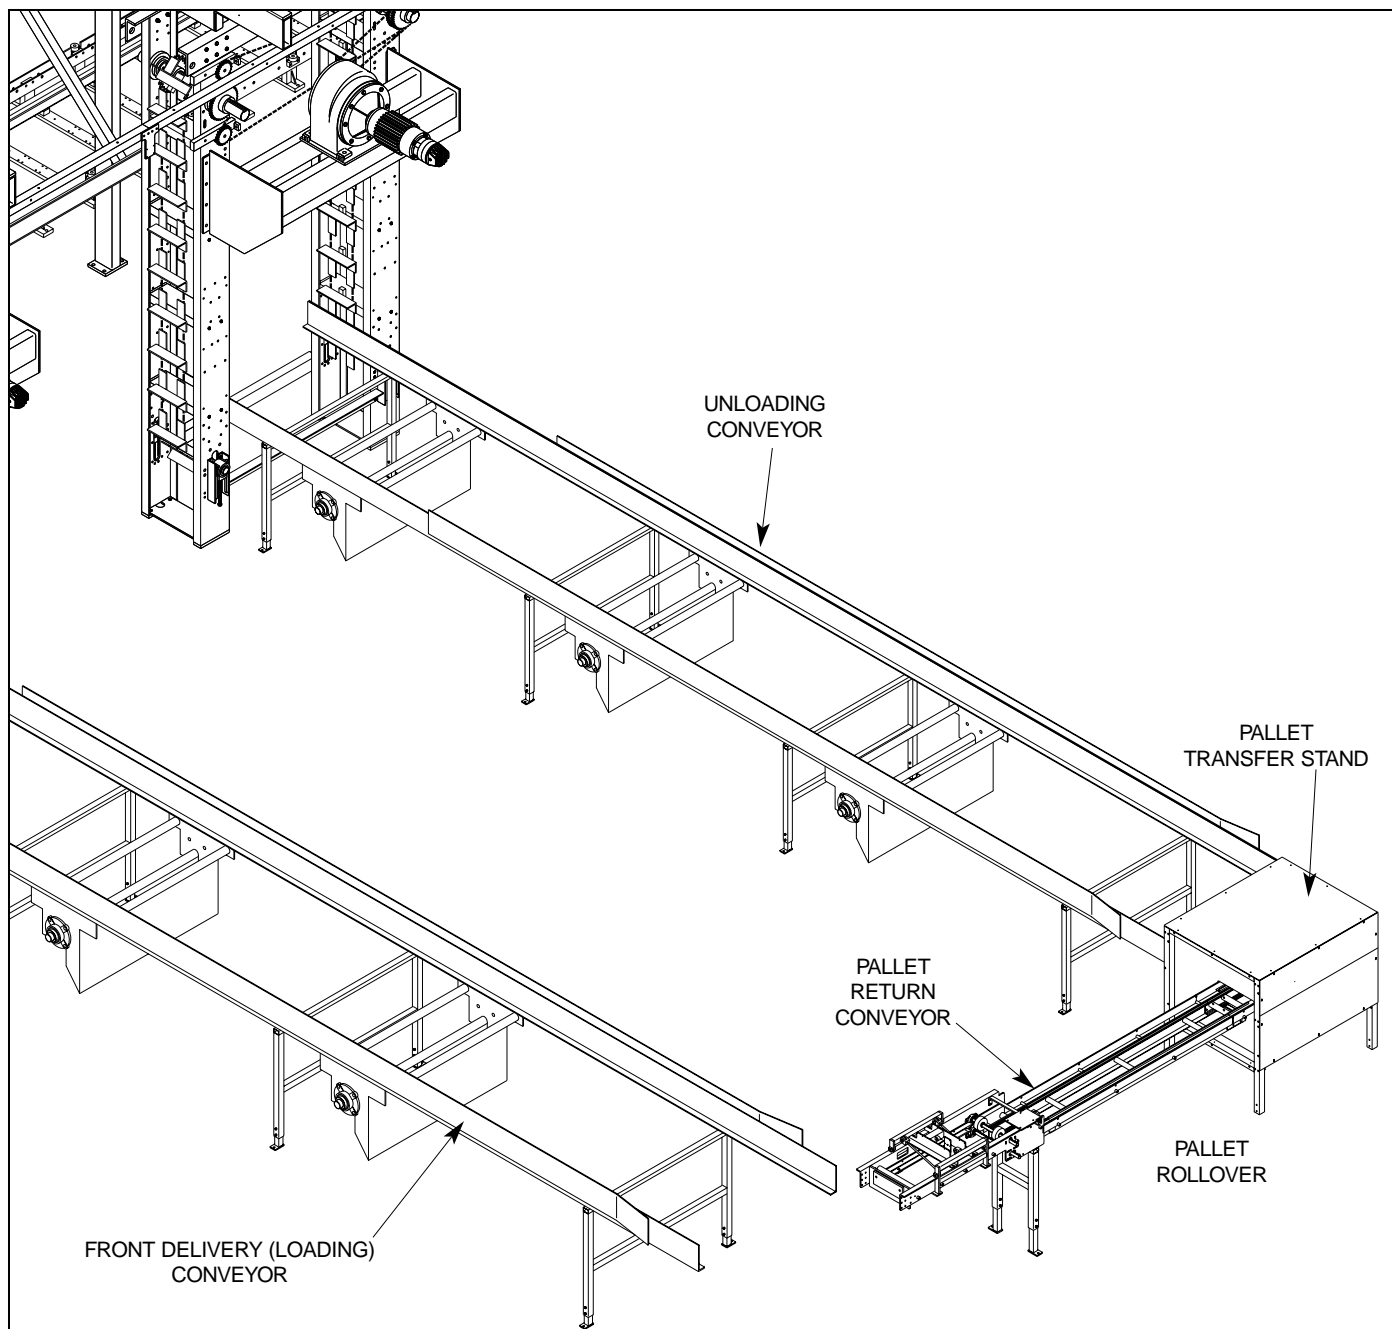
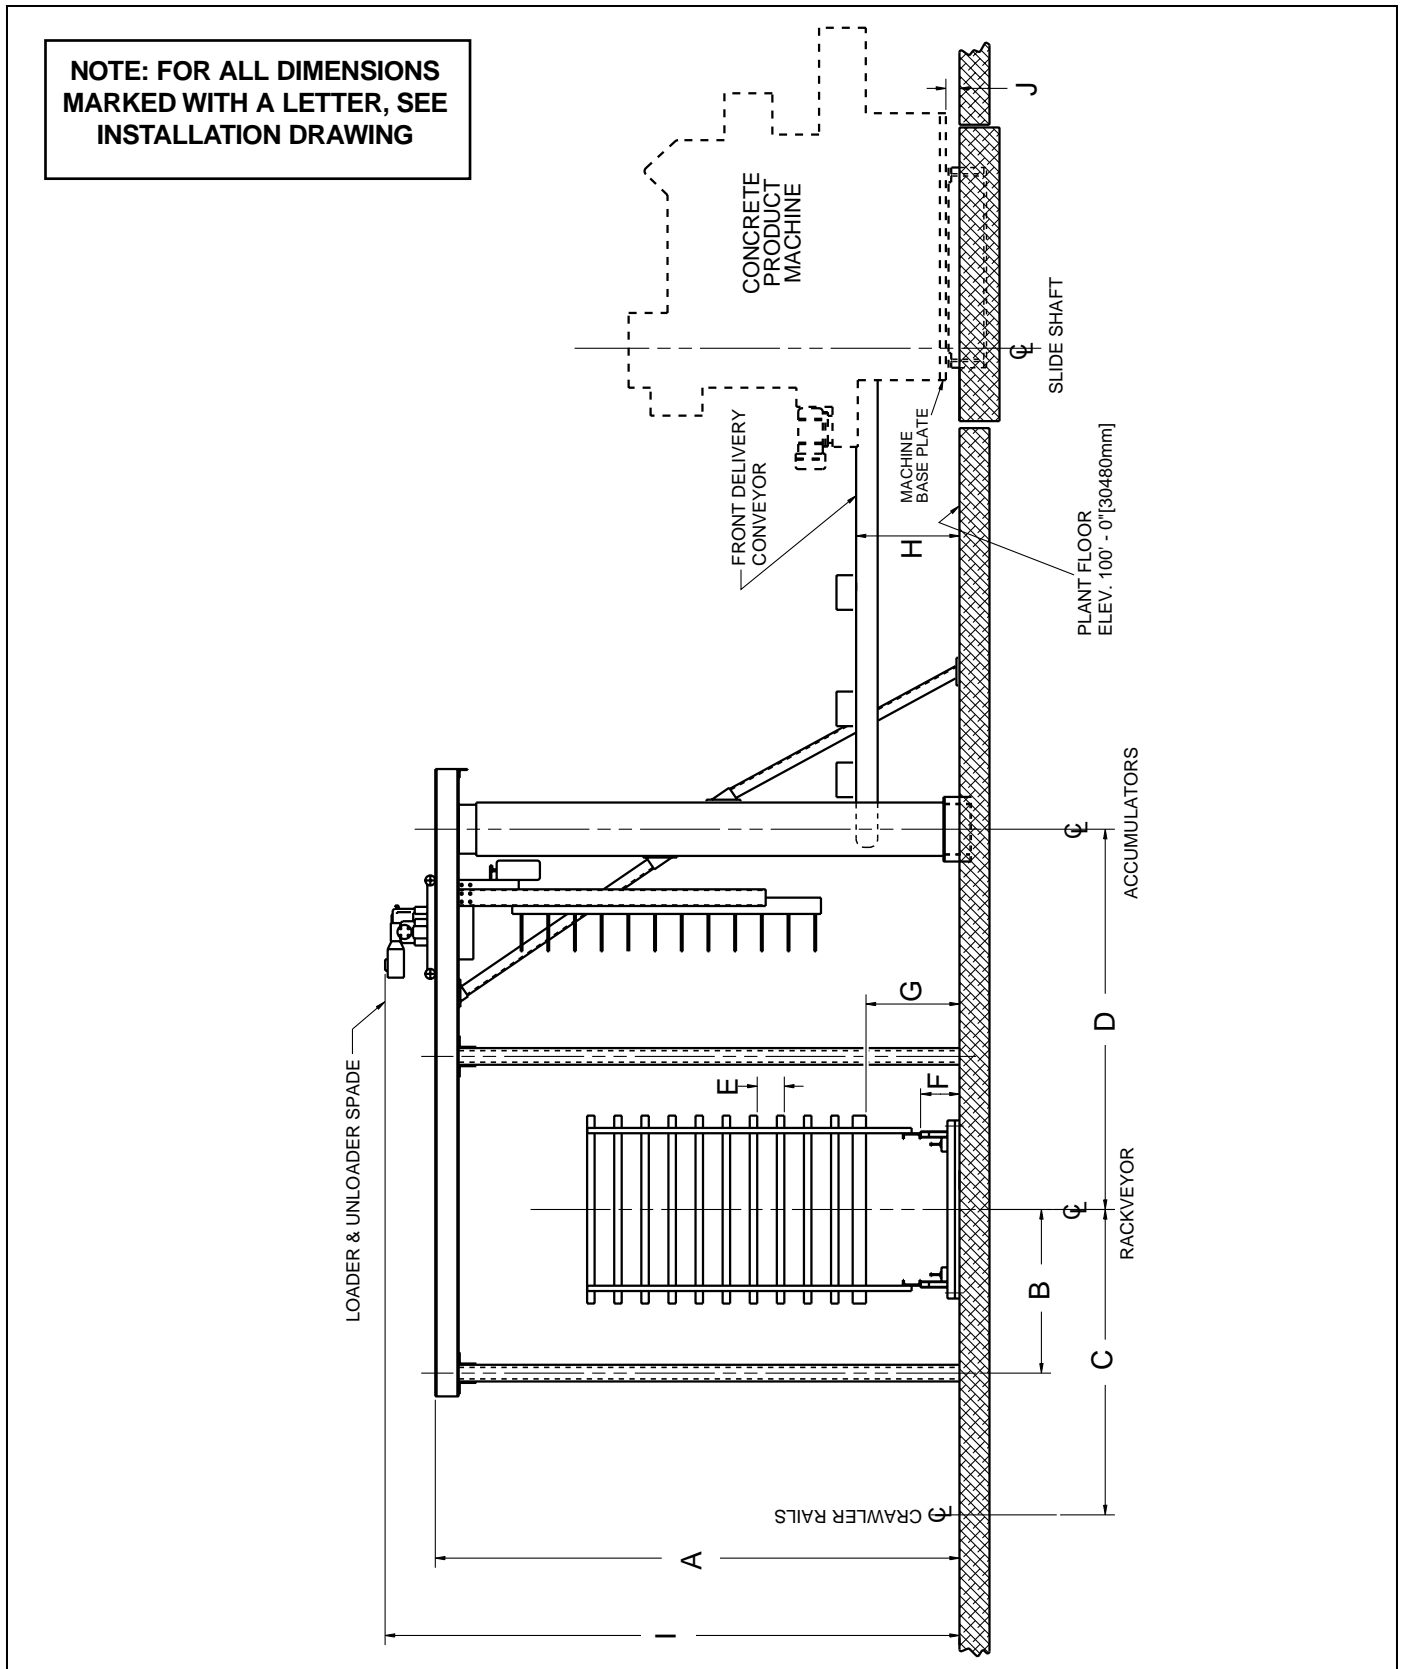

Figure 3.30 CONVEYORS ON MS-12. (Note that some drives are not shown on this illustration)
Figure 3.32 OVERALL INSTALLATION DRAWING (ELEVATION VIEW).
Note: Use figure 3.30 to locate conveyors.
3.9.1.6 Adjust height of conveyor. Refer to figure 3.32, measurement H. **Important:** Height should be taken from floor to top of chain. Use adjustment bolts to adjust conveyor height as shown in figure 3.30.
3.9.2.5 If necessary, hook up conveyor chains and tighten chains (on short conveyors, chains are not removed from the conveyor). **3.9.2.6** Adjust height of conveyor. Refer to figure 3.32, measurement H. **Important:** Height should be taken from floor to top of chain.